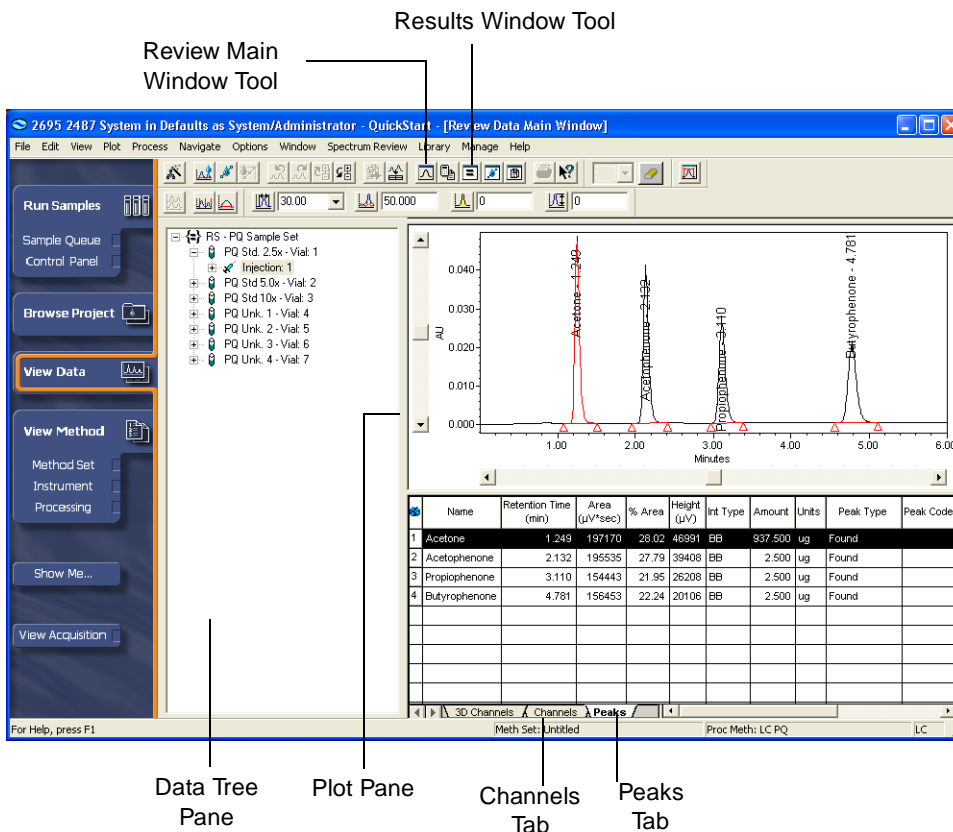

Figure 7-2 Review Main Window with Chromatogram of Std1
2. Click the result set, then click  (Review). The Review Data Main window appears and displays the daughter window that was last viewed (Figure 7-2).
- The Data tree pane lists unknowns and standards that are part of the result set (Figure 7-2). To view the chromatogram of an unknown or standard: